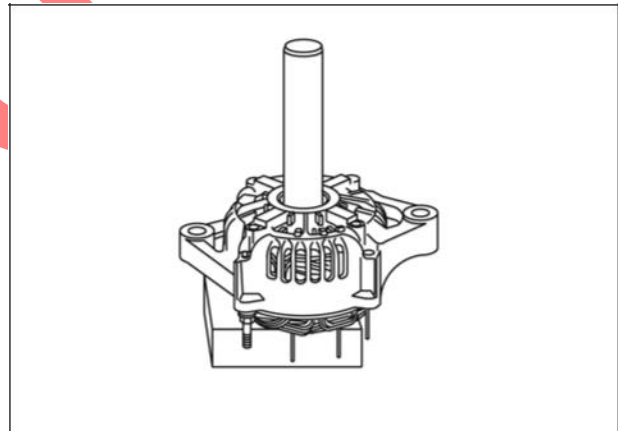

Figure 27
2. Press in new bearing using Bearing Drive #19226 (Figure 27).